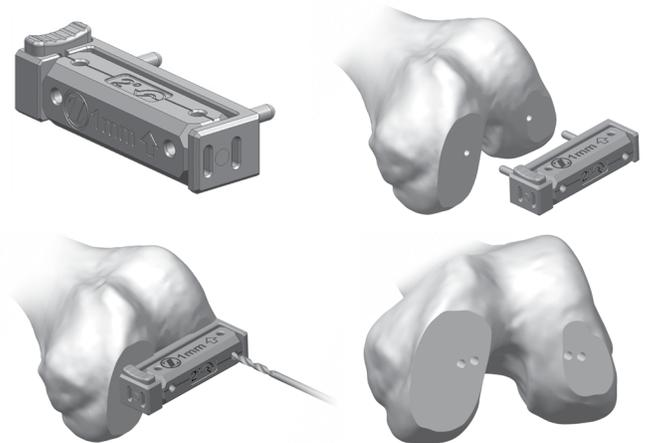

Fig. 40
- If needed, use the Persona Shift Block to adjust the Persona Posterior Referencing 4-in-1 Cut Guide rotation (2°) or AP position (1mm) prior to making any cuts with the Persona Posterior Referencing 4-in-1 Cut Guide (Fig. 40). Place the pegs of the Persona Shift Block in the holes created by the Zimmer FuZion Sizer for the Persona Posterior Referencing 4-in-1 Cut Guide. Establish the new block position by drilling through the holes on the face of the Persona Shift Block that specifies the adjustment that is intended. Use a 3.2mm Drill to drill the holes. Use the Zimmer FuZion 4-in-1 Cut Guide Adapter to verify the Persona Posterior Referencing 4-in-1 Cut Guide's new position is correct.